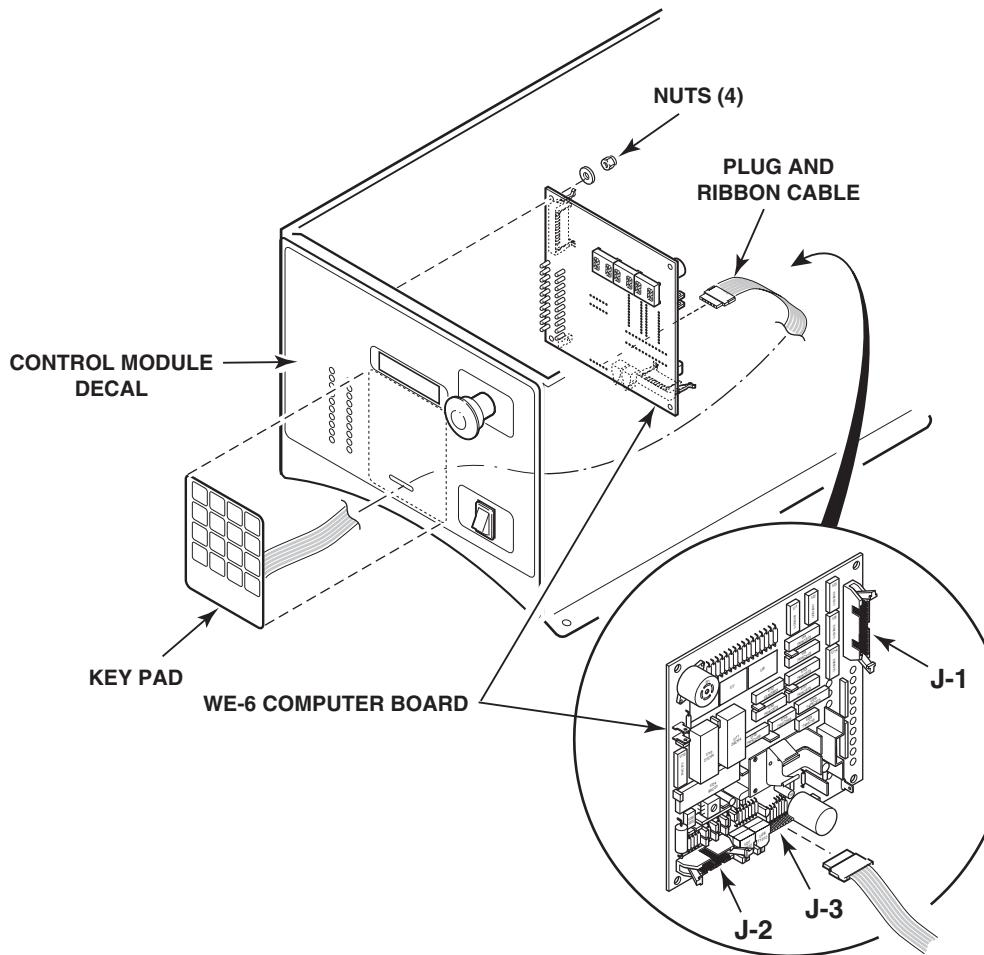
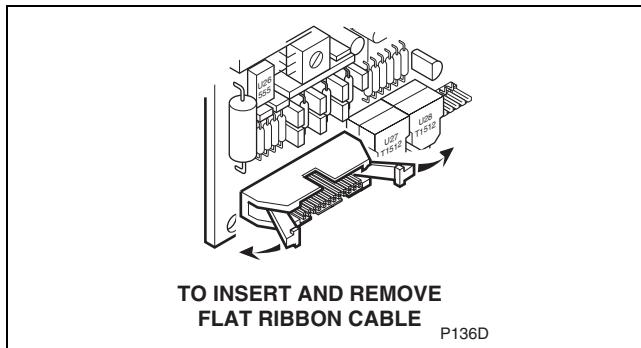
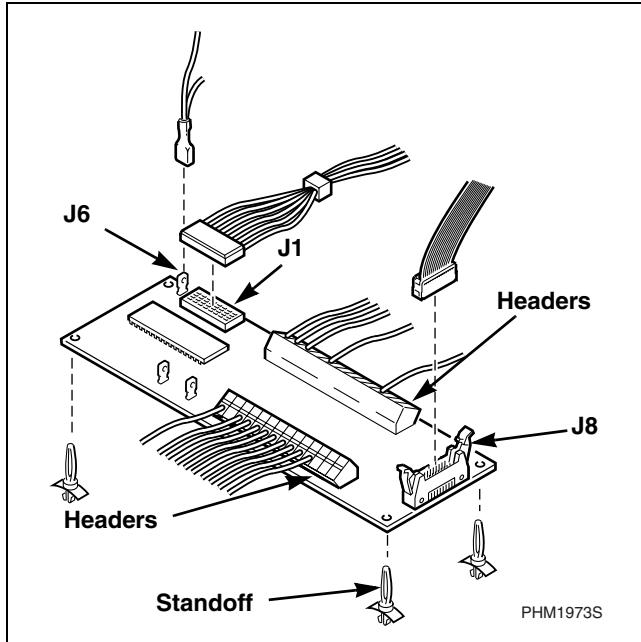

Figure 4
Figure 6
Figure 10
- e. Unplug the connector at J-3 (located on the bottom center of the computer board). Refer to *Figure 4*.
- d. Carefully connect the ribbon cable plug to J-3 at the bottom center of the computer board. Refer to *Figure 4*. The cable must not be twisted and the plug must be centered in the receptacle.
- d. Carefully disconnect the 16-conductor ribbon cable plug near the battery at J3, refer to *Figure 4*. Note the position of the red stripe to properly reinstall the cable. Use care when reconnecting this plug to avoid bending pins. Make sure that the pins are aligned with the sockets in the board before carefully seating the plug into the socket.
- e. Disconnect the 26-conductor ribbon cable connector at J1 by pushing on the “ears,” refer to *Figure 6*.
- f. Disconnect the remaining 16-conductor ribbon cable connector at J2 (refer to *Figure 4*) by pushing on the “ears.” Refer to *Figure 6*.
d. Disconnect the 26-conductor ribbon cable at the center of the board (adjacent to the transformer) by pushing on the “ears.” Refer to *Figure 6*.
- c. Label the headers and remove them from the interface board, refer to *Figure 10*.
- d. Disconnect the 16-conductor ribbon cable plug at J8 (refer to *Figure 10*) by pushing on the “ears.” Refer to *Figure 6*.
- e. Label and disconnect the ground wire at J6. Refer to *Figure 10*.
- f. Carefully disconnect the 16-conductor ribbon cable plug from J1. Refer to *Figure 10*. Note the notch on the socket of the ribbon cable. During installation use this notch as a reference to connect this plug correctly.